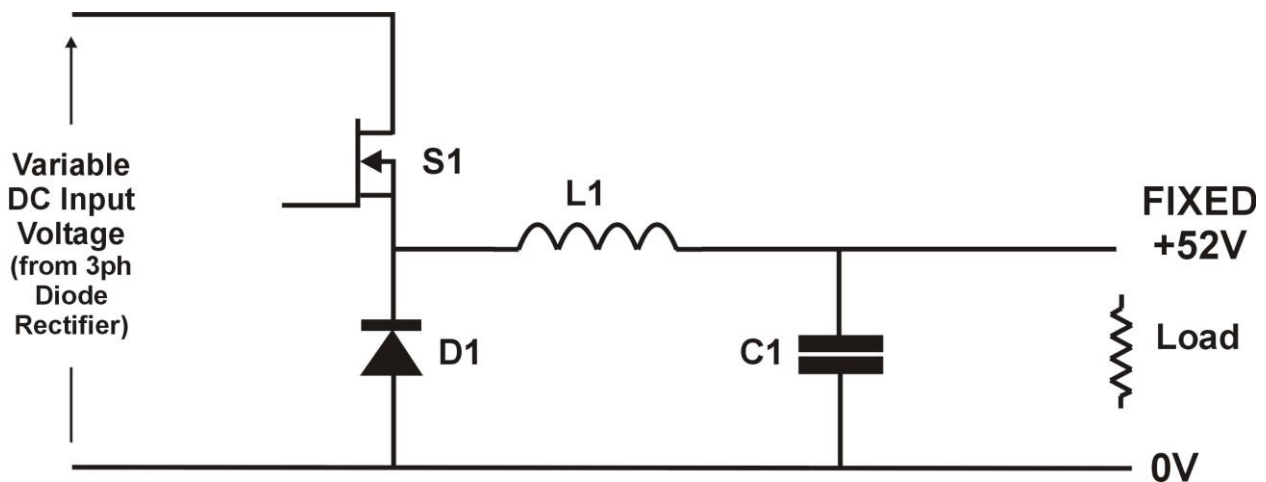

Figure 6: Buck DC-DC Converter
The system includes the existing PM generator and associated 3-phase diode rectifier. In addition, a **DC-DC converter** is required to interface to the battery bank, the requirements being to produce a **fixed DC voltage (52V) to charge the 48V batteries** and provide direct power (DC) to various DC loads (lighting and heating). Your results so far hopefully show that the diode rectifier outputs a range of voltage over the operating range of the generator therefore the additional DC-DC power stage is required to convert the variable DC Voltage to a fixed DC Voltage. Given that in this application the input voltage will always be higher than the required output voltage over the required operating range a **Buck Converter** is chosen. The topology for a Buck converter is shown on Figure 6 with associated component parameters given in Table 1.